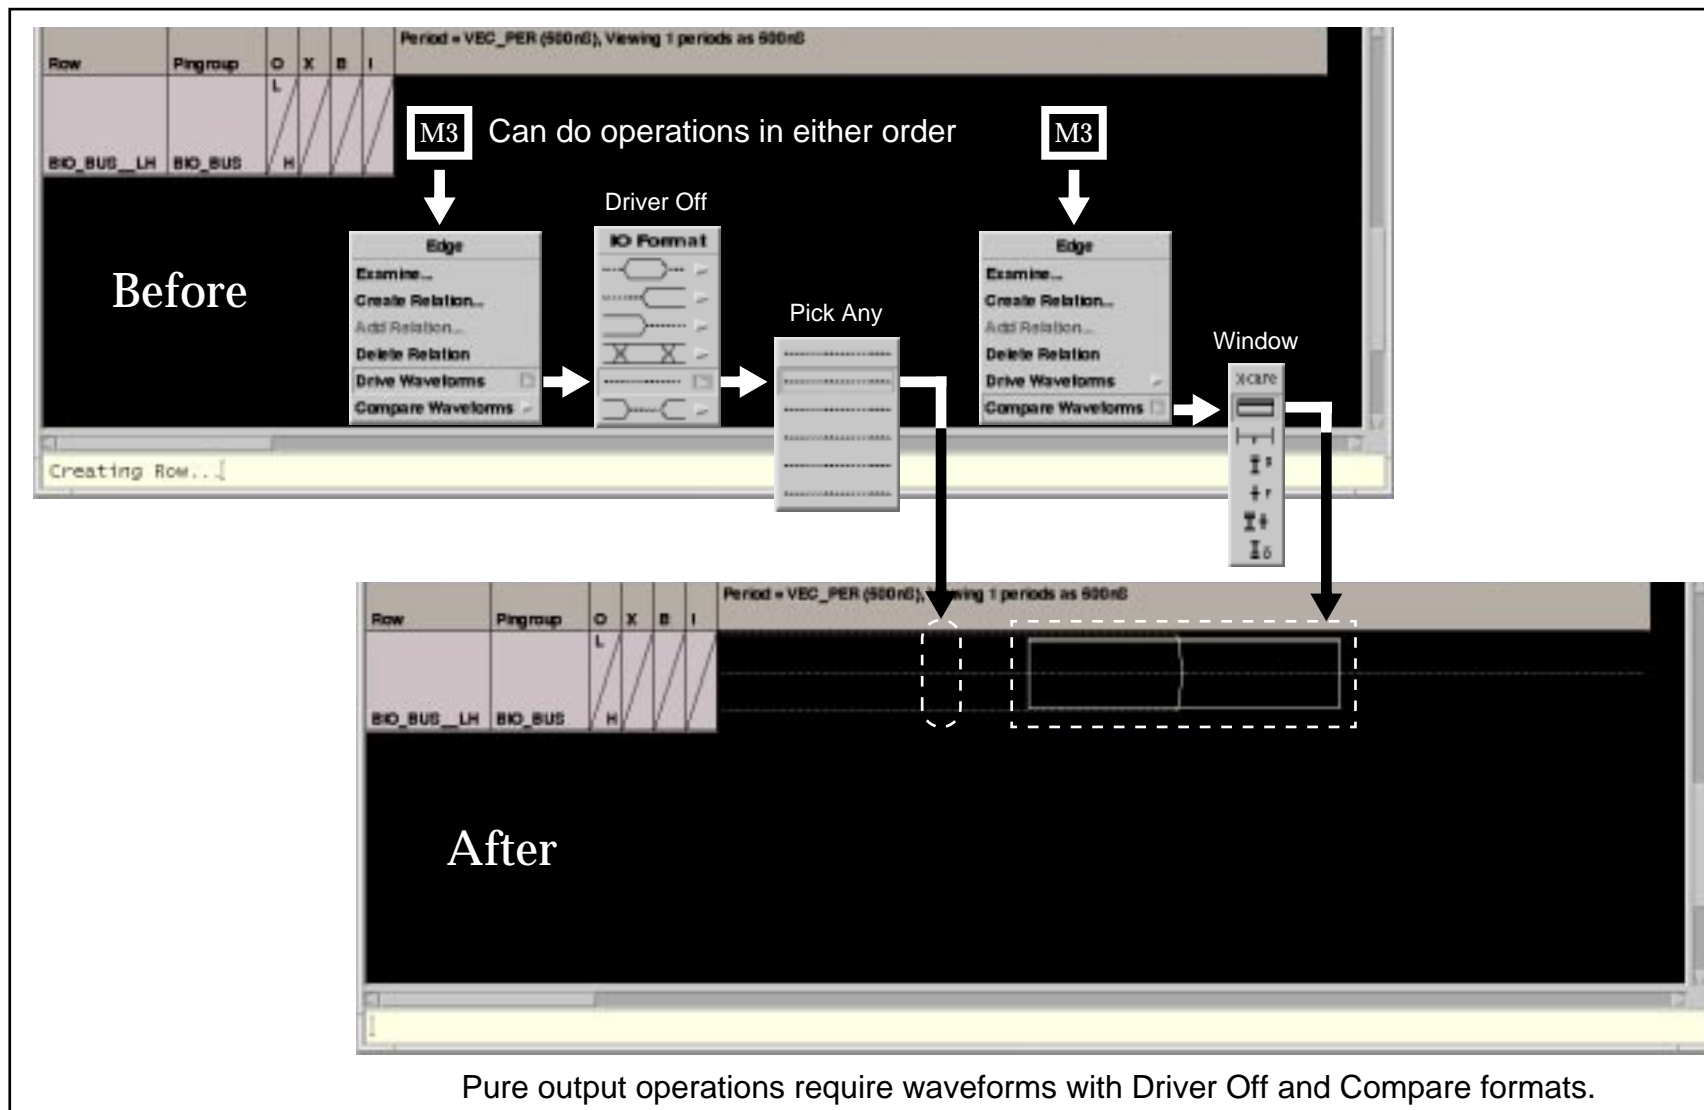

Figure 2.33: Adding Compare Information to a Cell
3. To add the Driver format: In the Edge popup menu, select Drive Waveforms, go to the cascade menu and select I/O format OFF, go to the cascade menu and select any for turning off the driver; refer to Figure 2.33.